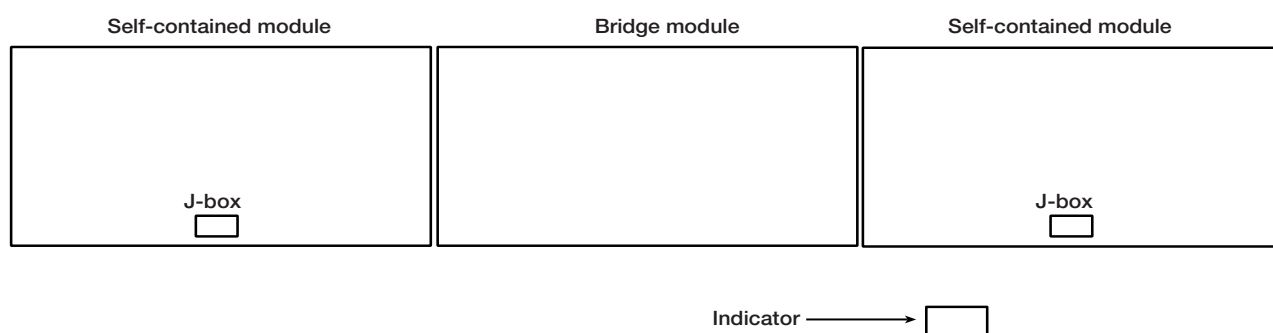

Figure 2-1. Module Placement
1. Considering the location of the indicator, place first self-contained module of the ATV into position on a flat surface. Be sure to arrange module with J-box positioned toward indicator (see Figure 2-1).